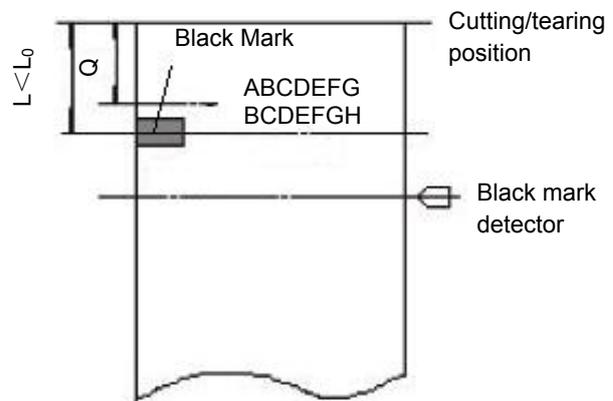

Figure 7-3
2. (1) When the distance L between the cutting/tearing position and the black mark position is less than the inherent mechanical value  $L_0$  of the printer (shown as figure 7-3), the calculation of cutting/tearing position offset is shown as follows: